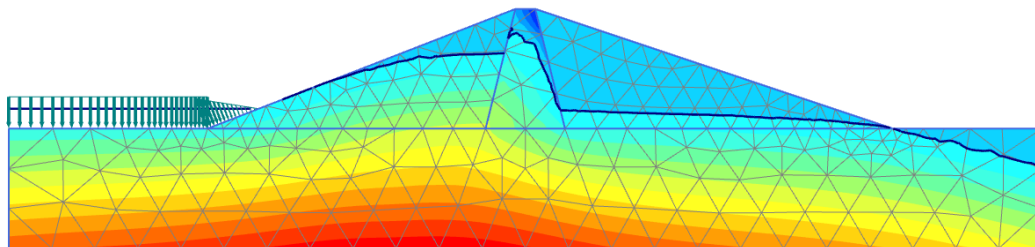

Figure 186: Pore pressure distribution, (p_{active}), after rapid drawdown
- The pore pressure distribution after rapid drawdown of the reservoir level is shown in Figure 186 (on page 210).